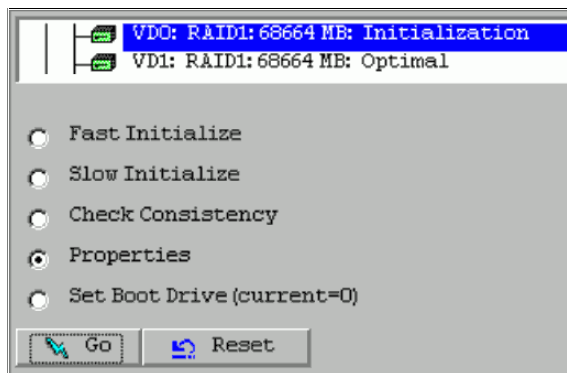
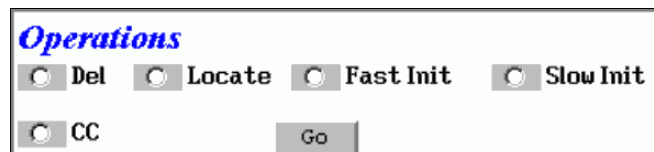

Figure 3-60 Virtual disk features
Figure 3-62 WebBIOS virtual disk Operations panel
This section discusses the features shown in Figure 3-60.
1. Select the appropriate virtual disk (VD) from the list (shown in Figure 3-60 on page 168).
Many of the same operations listed in Figure 3-60 on page 168 can be performed from the Operations panel shown in Figure 3-62.